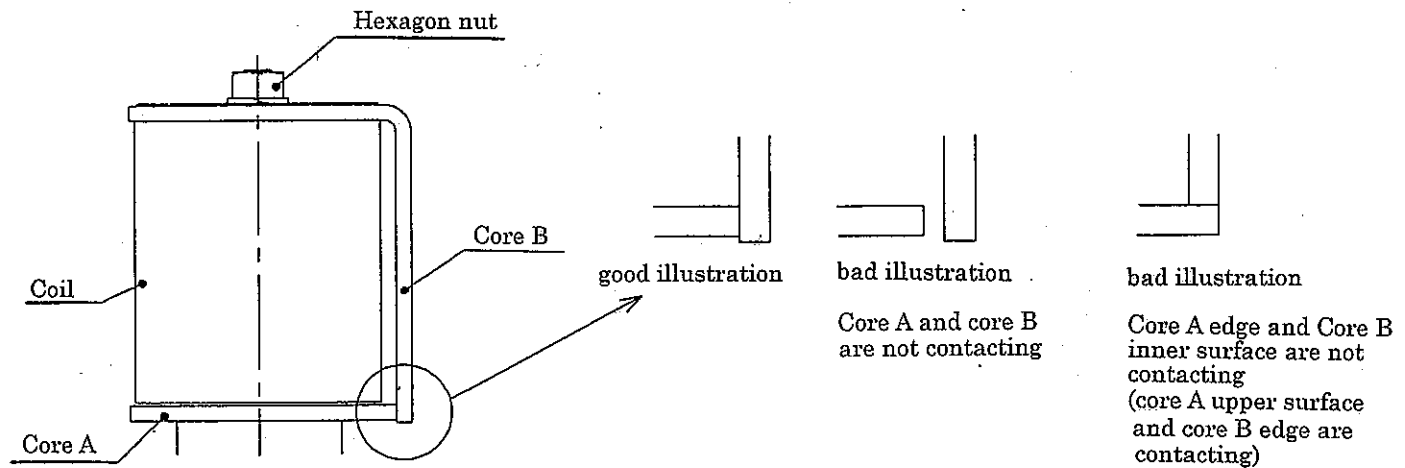

Fig. 13.
- (1) To re-assembly, follow the instructions for "5.1 disassembly" in reverse order, and make sure not to forget any of the parts.
- (2) Take care to the installation direction of the diaphragm assembly ②. (For the 65 and 80 port size, the installation direction will be determined when the positioning eyelet ②⑦ is mounted on the diaphragm assembly body ① hole.)
- (3) Assembly the spring ③ so that it is not tilted.
- (4) Accurately mount each O-ring onto the slot of each installation part.
- (5) Accurately mount the plunger spring ①⑤ onto the plunger ①⑥.
- (6) Assemble the core A ①⑨ edge so that it accurately contacts the inner surface of core B ②③, and securely tighten it with the hexagon nut ②⑥. (Refer to Fig. 13.)
- (7) Tighten the hexagon head bolt ⑨ at a torque of 12 to 18N.m for the 20 to 50A port size, and at 24 to 36N.m for the 65 to 80 port size.
- (8) The filter assembly ⑧ is a resin part, so lightly tighten it by hand. The reference tightening torque is 0.8 to 1.2N.cm. The assembly will be damaged if tightened too far.